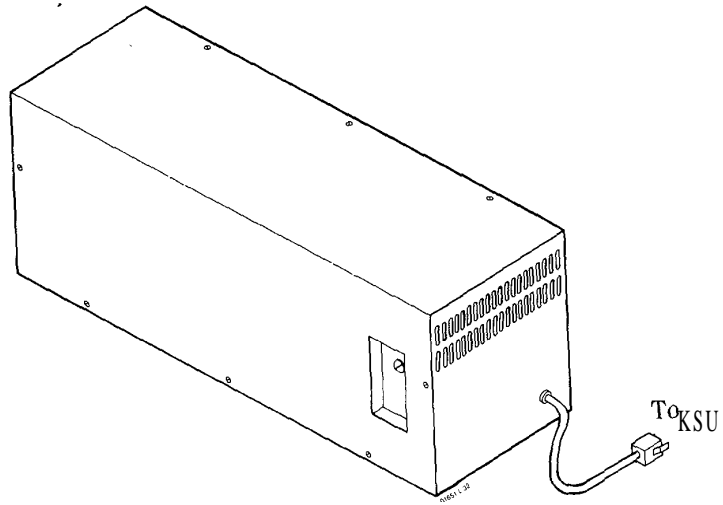
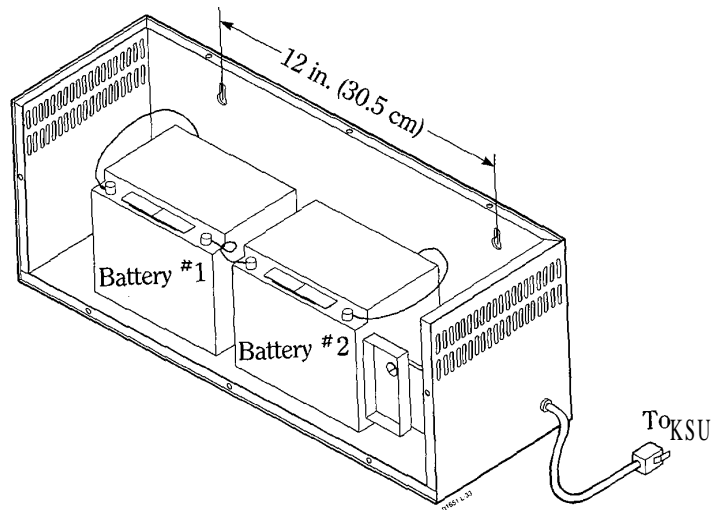

FIGURE 2-45 BATTERY BACKUP BOX (P/N **15321H**)
FIGURE 2-46 BATTERY BACKUP BOX (**UNCOVERED**)
The Battery Backup Box provides power during a power failure. See Figure 2-45 Battery Backup Box and Figure 2-46 Battery Backup Box (Uncovered).
4. With 4-wire connecting cable, connect Battery Backup Box to KSU Power Supply (see Figure 2-46, Side View of the KSU Power Supply for Battery Backup Box).